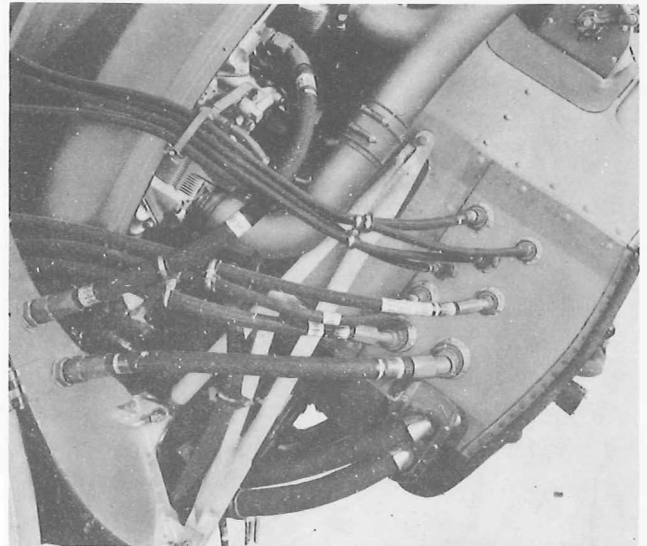

**Figure 5-3. Power Package Electrical Disconnects**
- d. Disconnect the ignition conduit at "A" (step 1), starter cable at "B" (step 1) and main electrical plug at "C" (step 1) at the left forward bulkhead in the engine compartment. (See figure 5-3.)